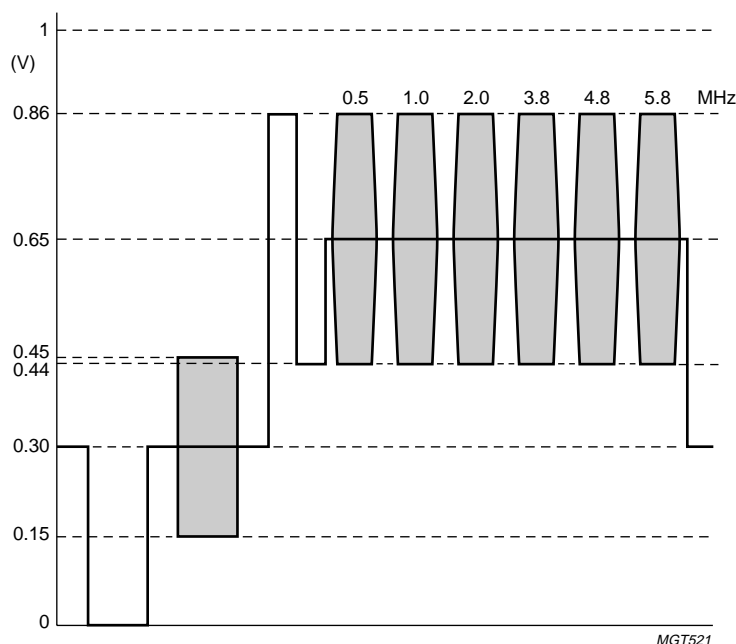
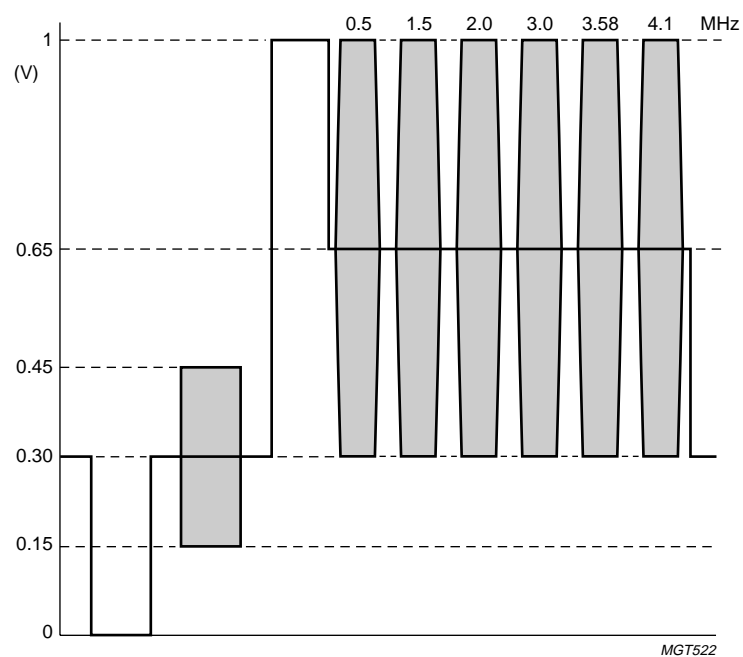

Fig.4 CCIR-18 multi-burst.
Fig.5 100% amplitude FCC multi-burst.
5. Test signal for PAL B, G, H, D, I and N: CCIR-18 multi-burst (see Fig.4). For PAL M and NTSC M: 100% amplitude FCC multi-burst (see Fig.5).